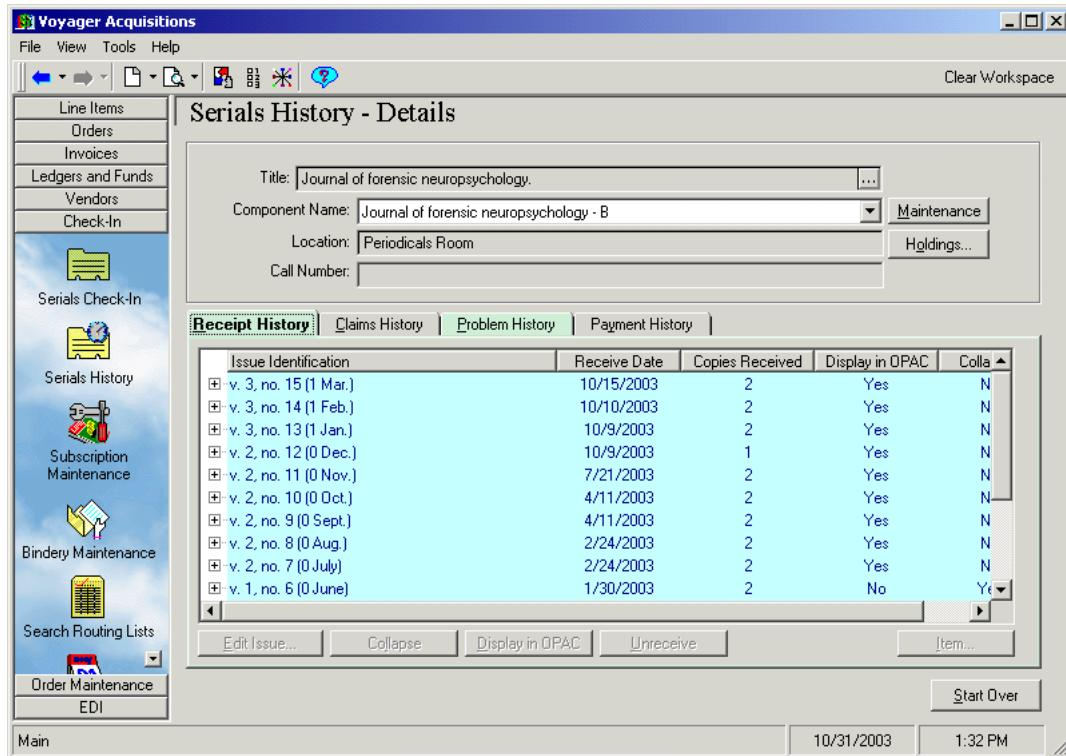

Figure 13-9. Serials History workspace - ellipsis displayed beside the Title field
- The **ellipsis** button beside the **Title** field at the top of the **Serials History** workspace (see Figure 13-9). There are numerous ways to display the **Serials History** workspace. See Serials History Information on page 9-27 for more information.